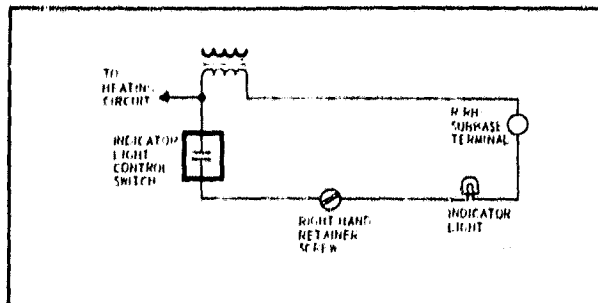

FIG. 14—WIRING HOOKUP FOR INDICATOR LIGHT AND CONTROL SWITCH.
4. Connect remaining indicator light control switch wire to common secondary leg of heating transformer (Fig. 14).